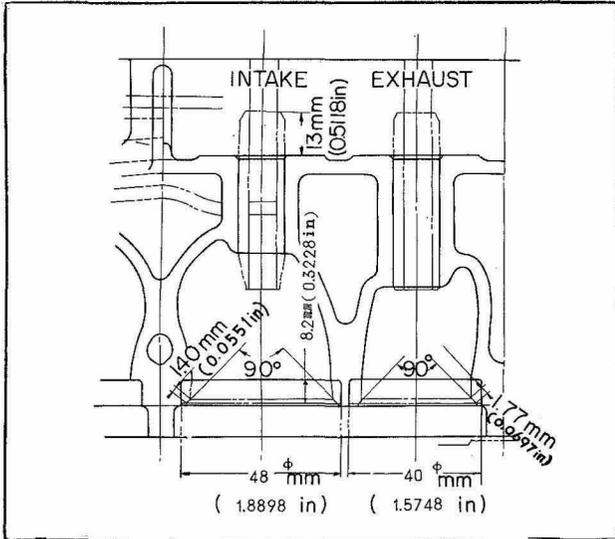

Fig. EM-58 Sectional View of
1. The seating of the cylinder head must be machined to the dimensions given in Fig. EM-58. Each valve seat insert should have